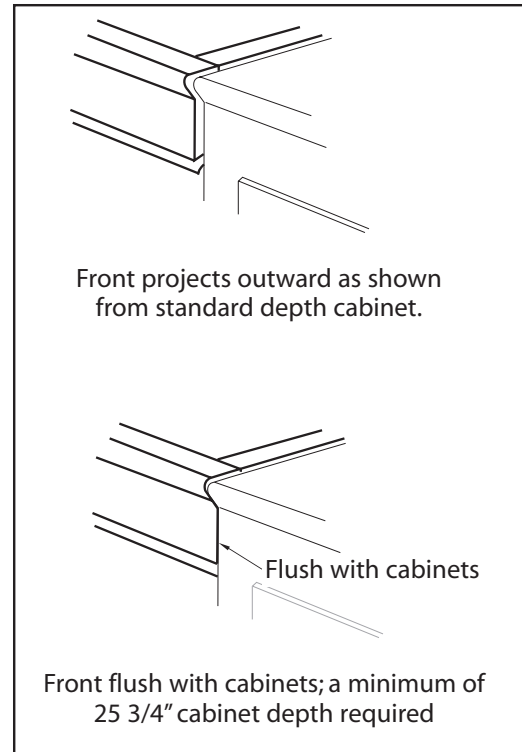
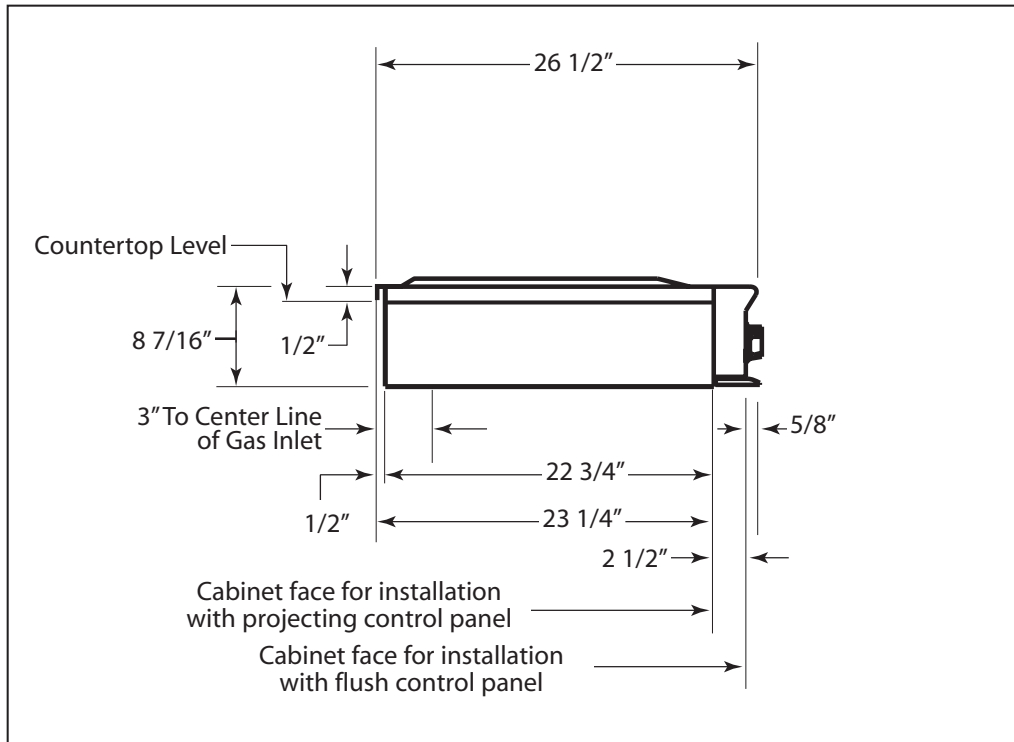

Fig. 2
Fig. 4
- 4) The cooktop can be installed in various positions with the front either flush or projecting, depending on the countertop depth. See Fig. 2 & Fig. 4 (cooktop side view).